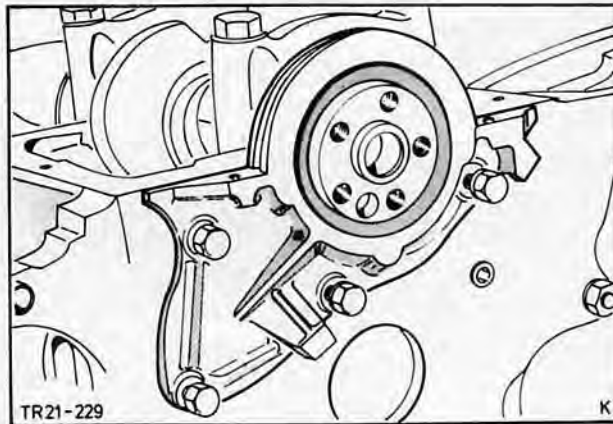

Fig. 44. Remove rear oil seal carrier
30. Remove rear oil seal carrier (4 bolts), Fig. 44.